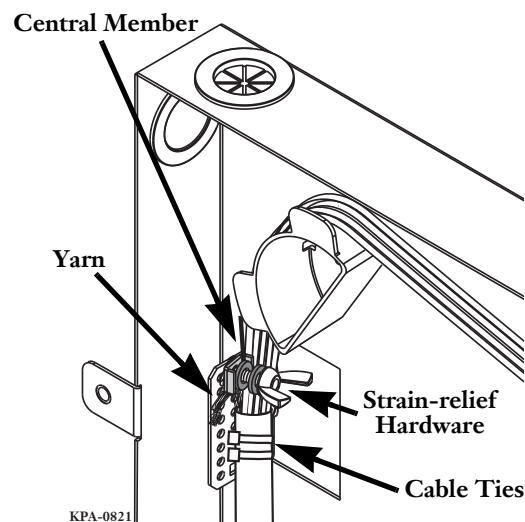

Figure 6 — Central Member Strain-relief
- Step 6:** Attach the wing nut and tighten to secure the central member and yarn (Figure 6). Cut excess central member and yarn.